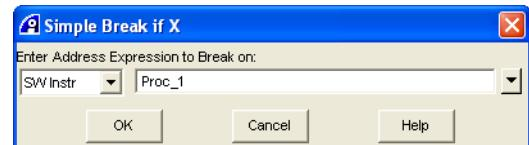

Figure 11-3 Simple Break if X dialog box
4. Select **Debug → Breakpoints → Conditional → Break if X...** from the main menu. The Simple Break if X dialog box is displayed. Figure 11-3 shows an example: